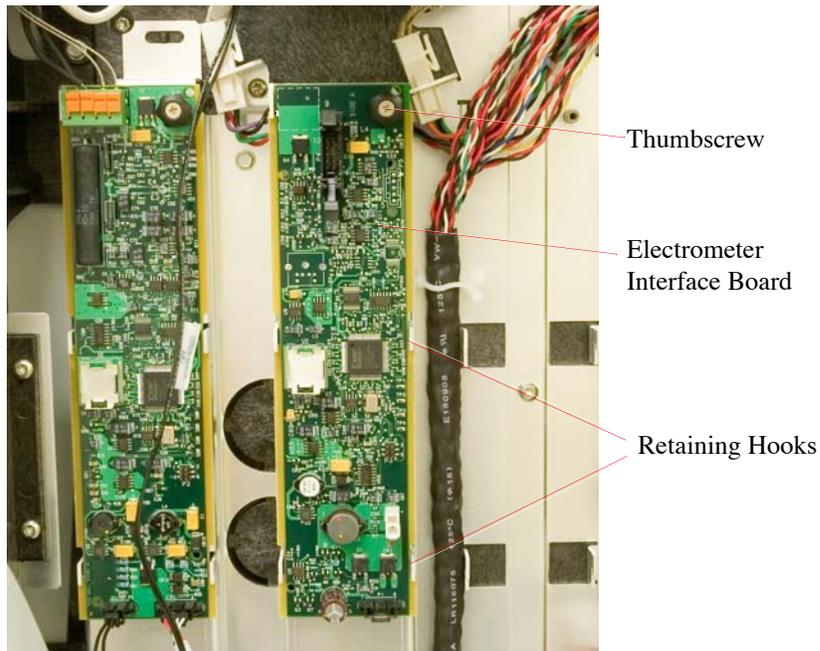

Figure 3.3. Attaching the Electrometer Interface Board
- Align the electrometer interface board with the frame so that the captive thumbscrew is in the upper right-hand corner and the circuits are facing out. See Figure 3.3.
- Starting with the board notches below the retaining hooks on the GC frame, slide the board up so that all slots engage all hooks, the board lies flat and evenly on the frame, and the captive thumbscrew aligns directly over the screw hole. See Figure 3.3.